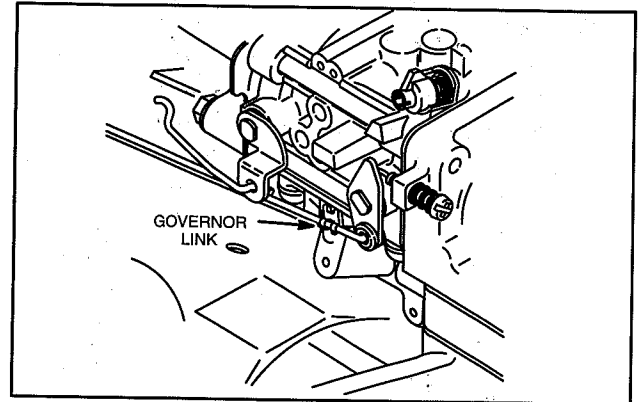

Fig. 76 – Disconnect Governor Link
7. Unhook governor link spring from throttle lever and disconnect governor link, Fig. 76.